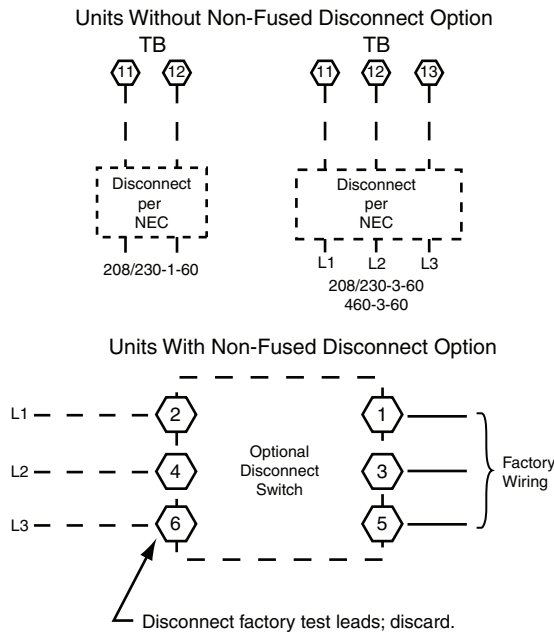

Fig. 17 — Power Wiring Connections
Refer to Fig. 17 for power transformer connections and the discussion on connecting the convenience outlet on page 14.
The factory-installed option non-fused disconnect (NFD) switch is located in a weatherproof enclosure located under the main control box. The manual switch handle and shaft are shipped in the disconnect enclosure. Assemble the shaft and handle to the switch at this point. Discard the factory test leads (see Fig. 17).
All field wiring must comply with NEC and all local codes. Size wire based on MCA (Minimum Circuit Amps) on the unit informative plate. See Fig. 17 and the unit label diagram for power wiring connections to the unit power terminal blocks and equipment ground. Maximum wire size is #2 ga AWG per pole.
2. Install power lines to terminal connections as shown in Fig 17.